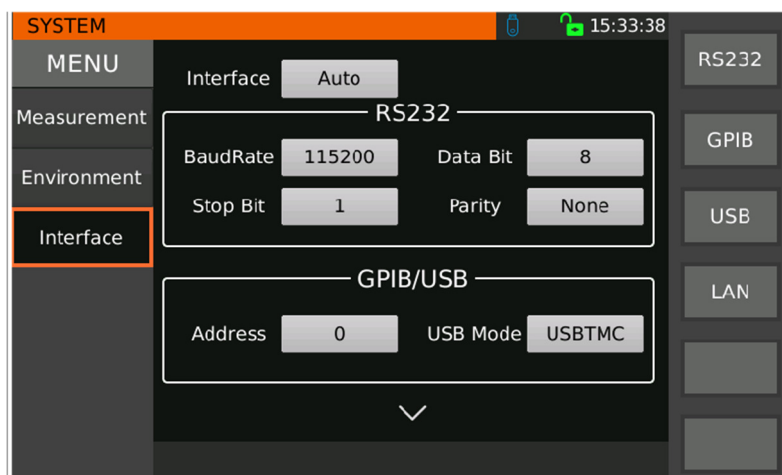
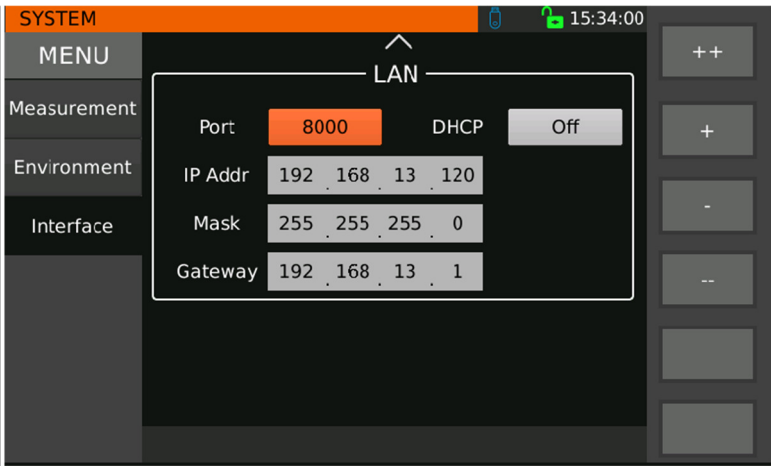

Figure 3-9 System Communication Setup 1
Figure 3-10 System Communication Setup 2
2. Choose to enter the communication related system setting interface shown in Fig. 3-9 and Fig. 3-10 through ▲, ▼ arrow keys or knob or touch the screen directly.
3. Move the cursor to the parameter item you want to set to change the parameter setting. The system communication settings are shown in Figure 3-9 and Figure 3-10.